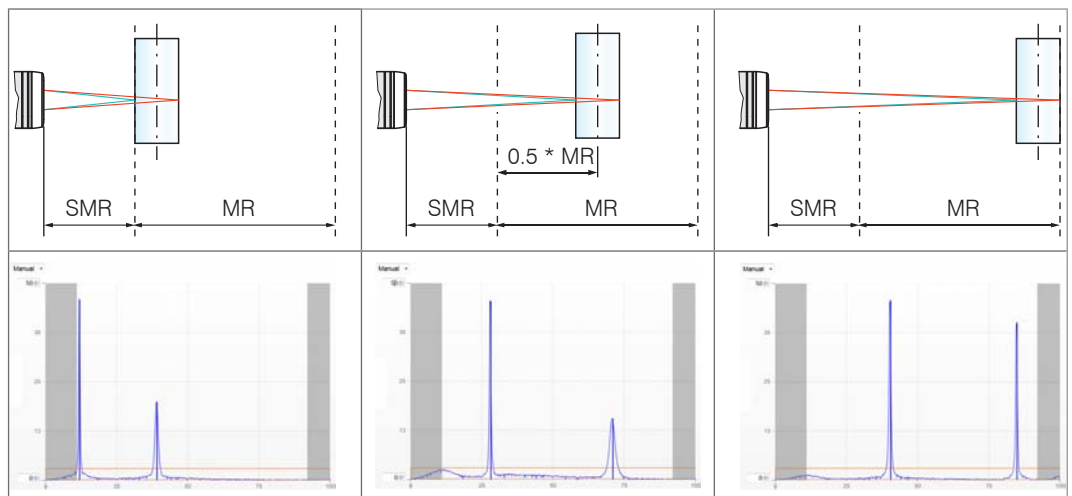

Fig. 57 Video signal at start of measuring range (SMR), midrange (MMR) and end of measuring range (EMR) for determination of refractive indices
- ➡ Move the measuring object with the front edge to start of measuring range, see Fig. 57.